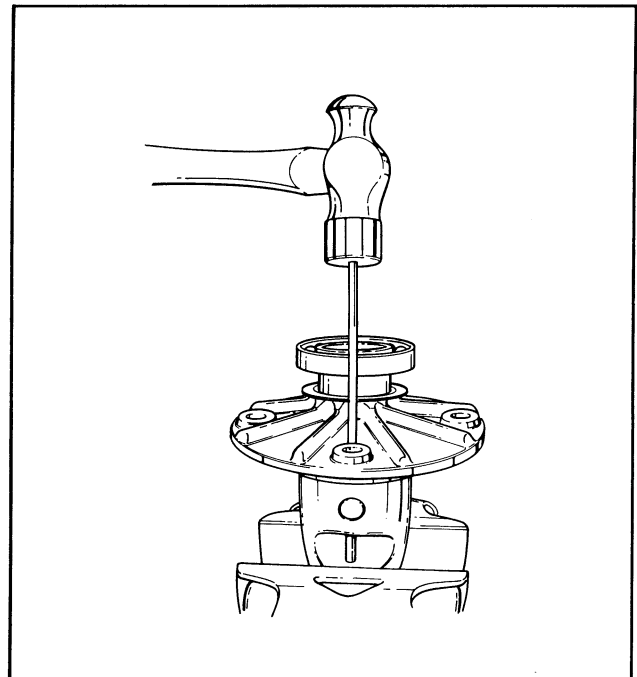

Figure 30 – Installing Lock Pin
- d. Align lock pin hole in pinion mate shaft (14) with hole in carrier and drive lock pin (9) to approximate center location of pinion mate shaft. See Figure 30.